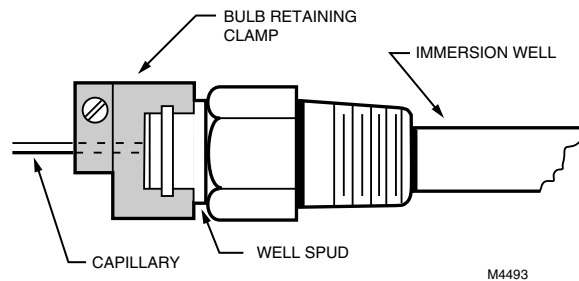

Fig. 4. Immersion well installation.
**Using Immersion Well (Fig. 4)**